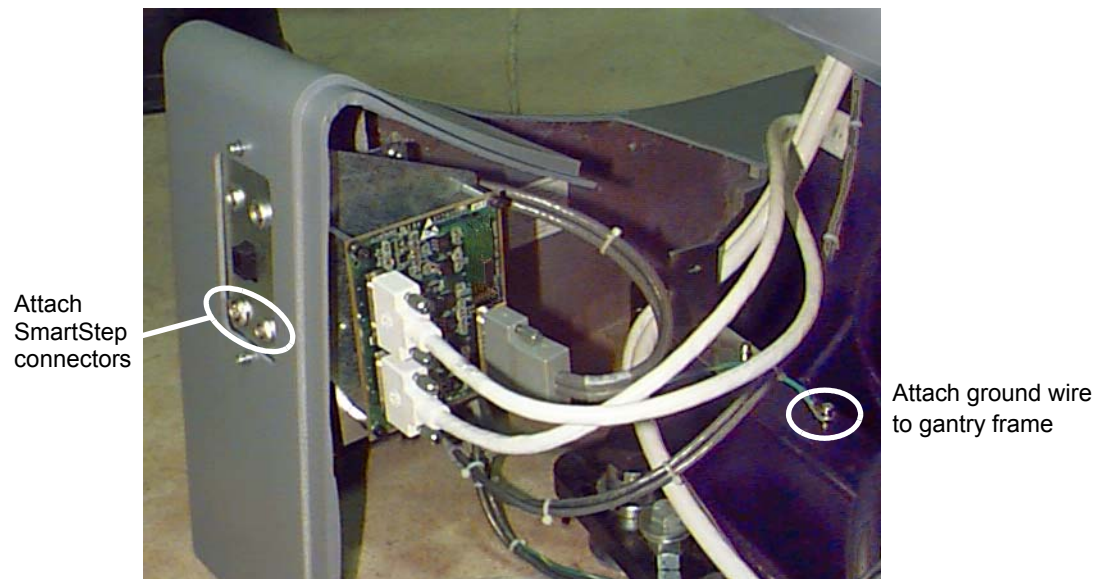

Figure 3-8 Ground Wire Installation
- 6.) Using the provided M4 screw (46-328417P4), washer (46-328430P2) and lock washer (46-328432P2), attach the SmartStep cable ground wire to the cable tie screw hole on the chassis. Remove paint as necessary to ensure a good electrical connection. See Figure 3-8 for location.